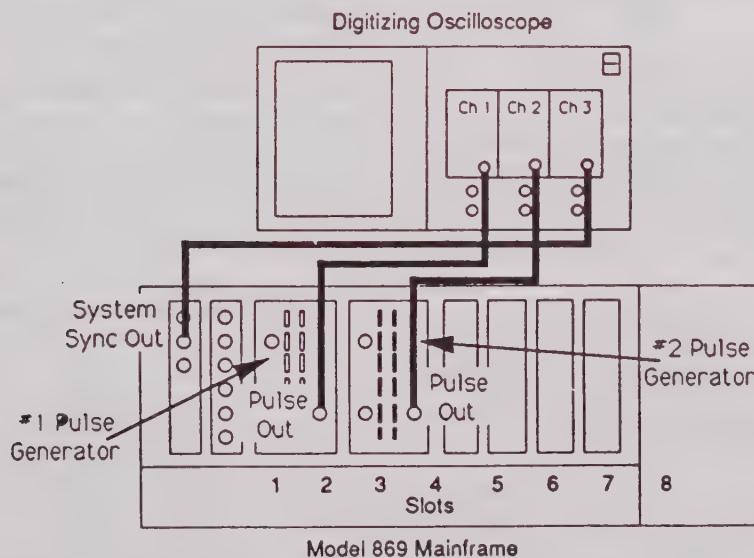

Figure 3-23. Master/Slave Example Hookup
1. Interconnect the required test equipment as shown in figure 3-23